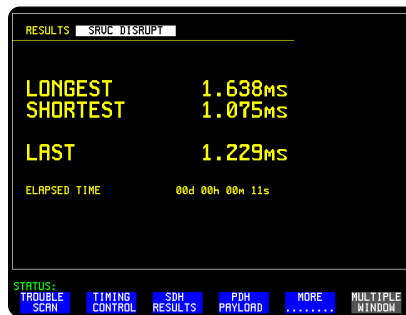

Figure 2.
6. Measure and record the result in the service disruption results page (see Figure 2).